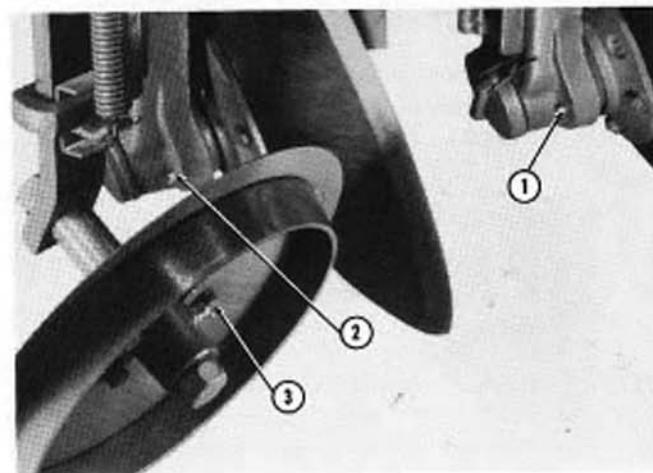

Figure 6
Use a standard grease gun to lubricate the grease fittings shown in Figure 6: (1) hub of front disc, (2) hub of rear disc, (3) hub of furrow wheel. Wipe the fittings clean and force enough grease into the bearings to carry out dirt and grit and to seal the bearings from outside dirt and dust.